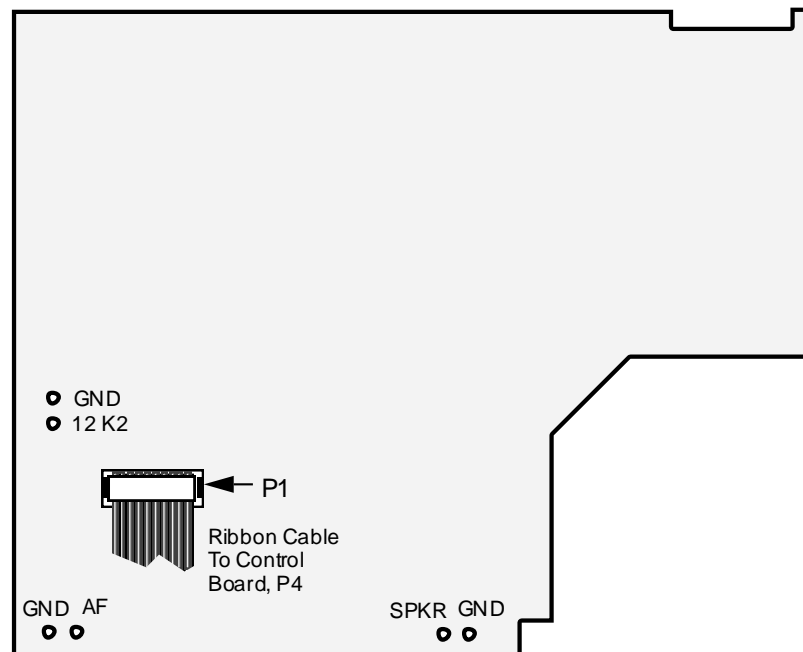

Figure 15
- ❑ Plug the other end of the ribbon cable into the KPA100 at P1. The correct orientation is shown in Figure 15.